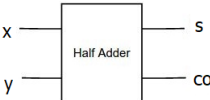

Figure 1: Half Adder Truth Table and block representation
2. Write down a module which is called **HA** into your arithmetic\_circuits.v file. This module is going to have 1-bit inputs **x** and **y** and 1-bit outputs **cout** (carry out) and **sum**. Ensure that your design provides the truth table shown in Figure 1.